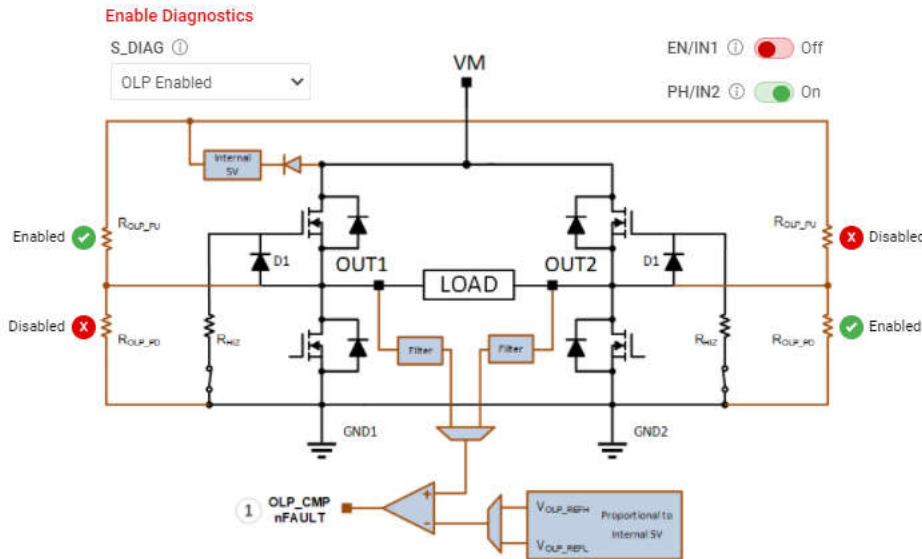

Figure 4-8. Passive Diagnostics Pop-Up Window
- **PASSIVE/ACTIVE DIAGNOSTICS** The SPI variant features both passive and active diagnostics. The passive diagnostics also known as Off-line Passive (OLP), can only be used when **ENABLE DRIVER** is disabled (Off-state). OLP shows up in a separate pop-up window as can be seen in Figure 4-8. A representative table from the device data sheet is displayed in this window for guidance to perform the passive diagnostics. Each row of the table covers a specific combination of user input selection, the corresponding OLP setup and load status inference from the OLP_CMP comparator output on the nFAULT pin. See the device data sheet for more details. The required S_DIAG selection can be made using the GUI for SPI devices. The required DIAG jumper setting must be done when **WAKE** is Asleep for HW devices prior to enabling passive diagnostics. The nSLEEP and DRVOFF inputs are logic 1 while observing passive diagnostics. Inputs for EN/IN1 and PH/IN2 are selected using the switches in the GUI. The pull up can take a few seconds, pull down resistors,